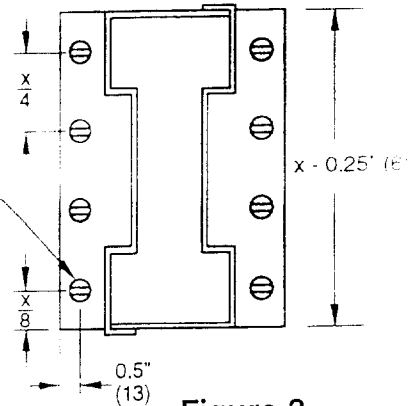

Figure 3
Drill holes in caps and concrete for anchoring. Set mullion caps with 1/4" (6) - 20 x 5/16" (8) steel screws and 3/8" (9.5) diameter x 1" (25) concrete expansion anchors (Construction Details fig. 3).